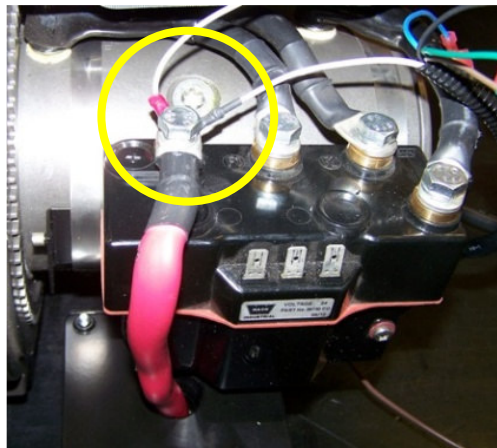

Figure 20
Step 18: Connect the positive cable, the white wire from the control pack, and the white wire from the OLI harness PN 80765 to the contactor positive terminal. (Figure 20)